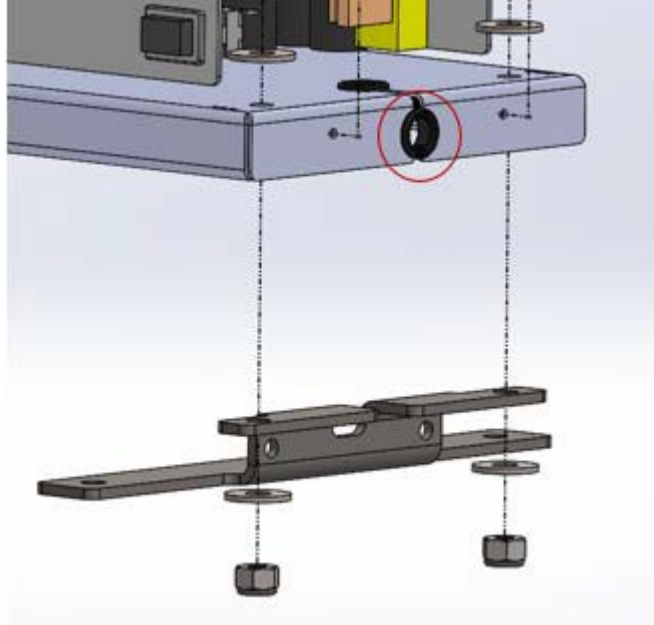

Figure 3 – WIRE TIE LOCATIONS
2. The harness can also be found in Figure 3. The harness can be routed as need for a given application. Holes for wire tying the harness can be seen in Figure 3.
3. Depending on the unit that is being installed, it will be required to connect the CAPS-Commuter unit to either 120VAC or 12VDC power supply. The power source that the unit is connected to should be switched by the ignition or something similar. This will prevent the system from being left on accidentally, causing the vehicle battery to die. Use external wiring grommet circled in Figure 3 if the wiring is being routed externally, grommet not used if routed internally.